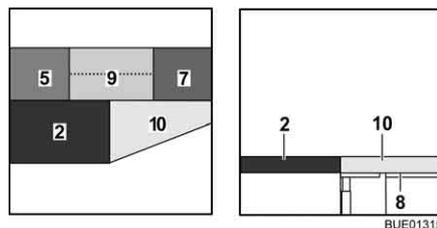

Fig. 135 After conversion
- Unfold the additional cushion (Fig. 135,9) and lay it on the table.
- Place the additional cushion (Fig. 135,10) on the bed widening.